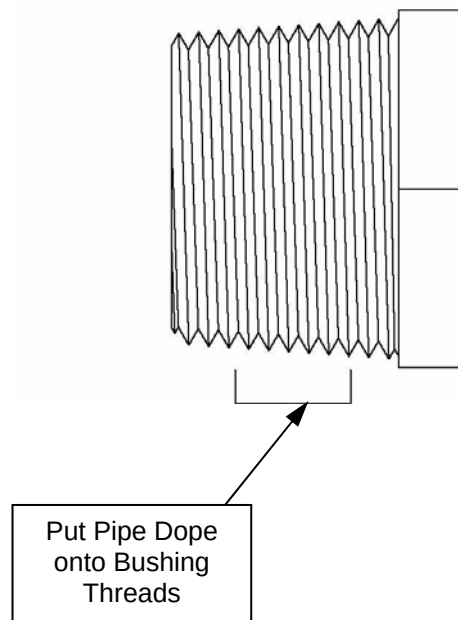

**Figure 71**
Step 4: Apply pipe dope (suitable for potable water use) to the threads of the bushings, as shown in Figure 71.